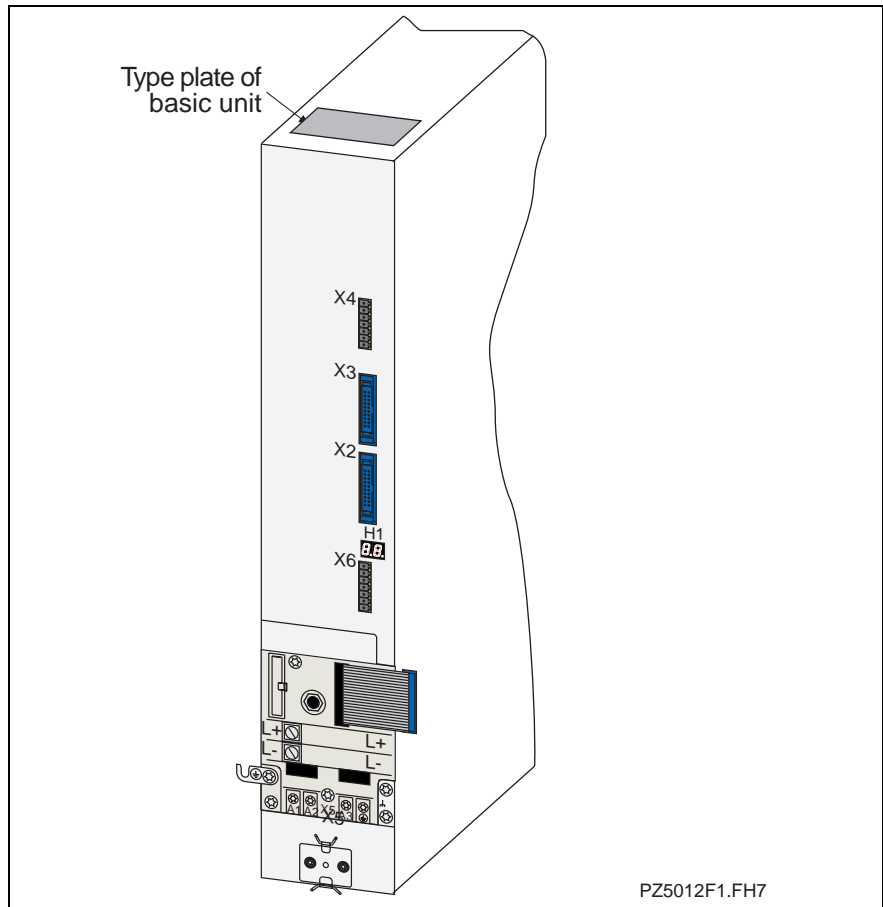

Fig. 9-2: Position of type plates on the unit
**Position of type plates** The controller is clearly identified by two type plates (see Fig. 9-2) :